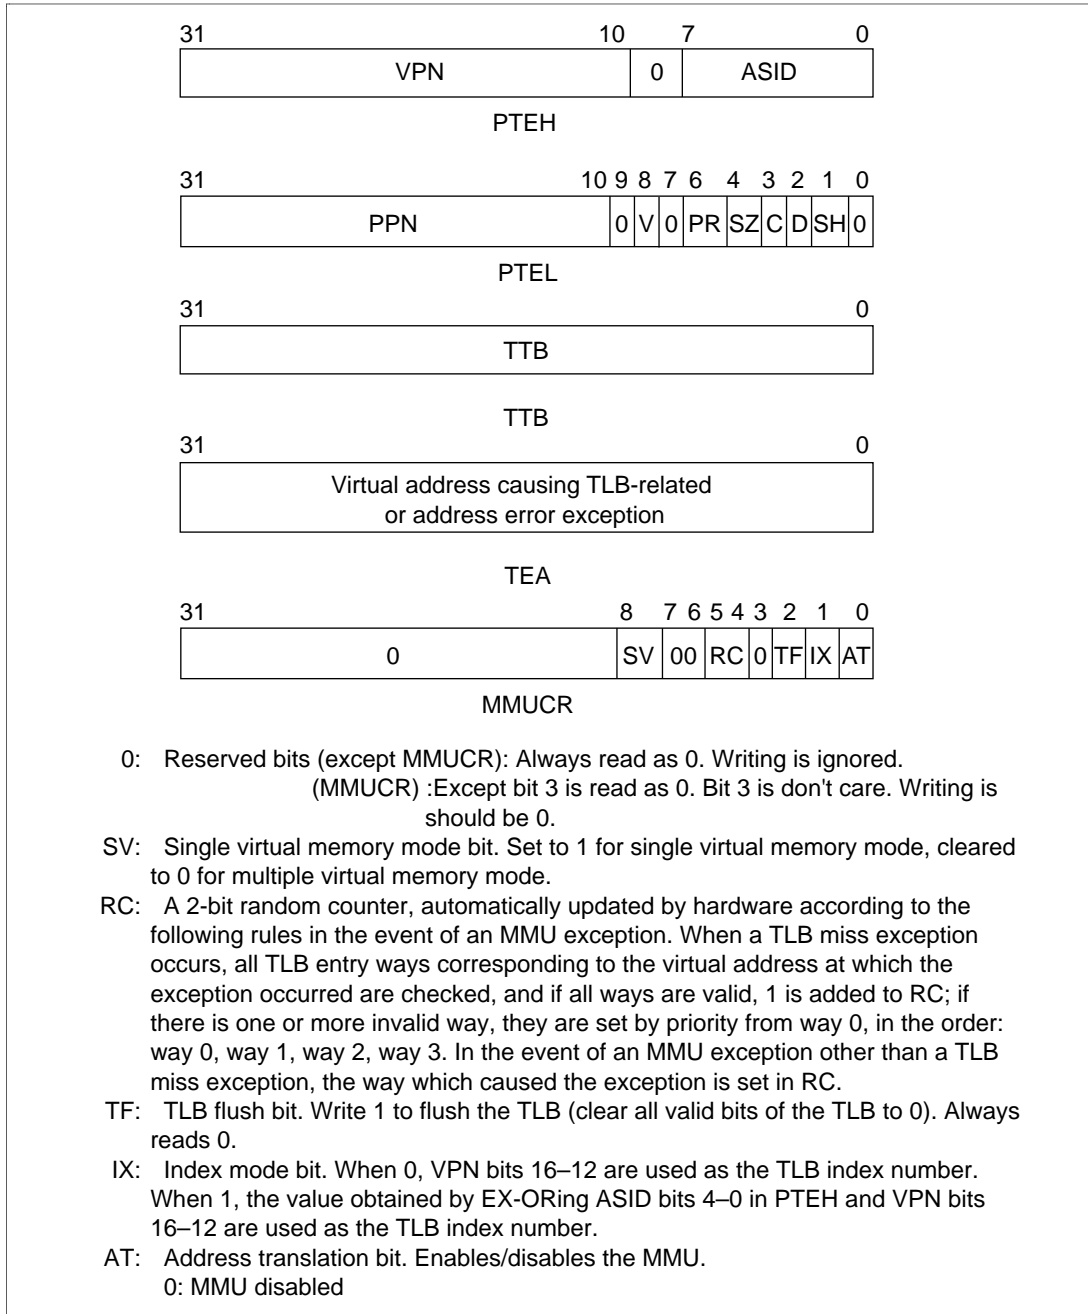

Figure 3.3 MMU Register Contents
5. The MMU control register (MMUCR) residing at address H'FFFFFFF0, which makes the MMU settings described in figure 3.3. Any program that modifies MMUCR should reside in the P1 or P2 area.
The MMU registers are shown in figure 3.3.